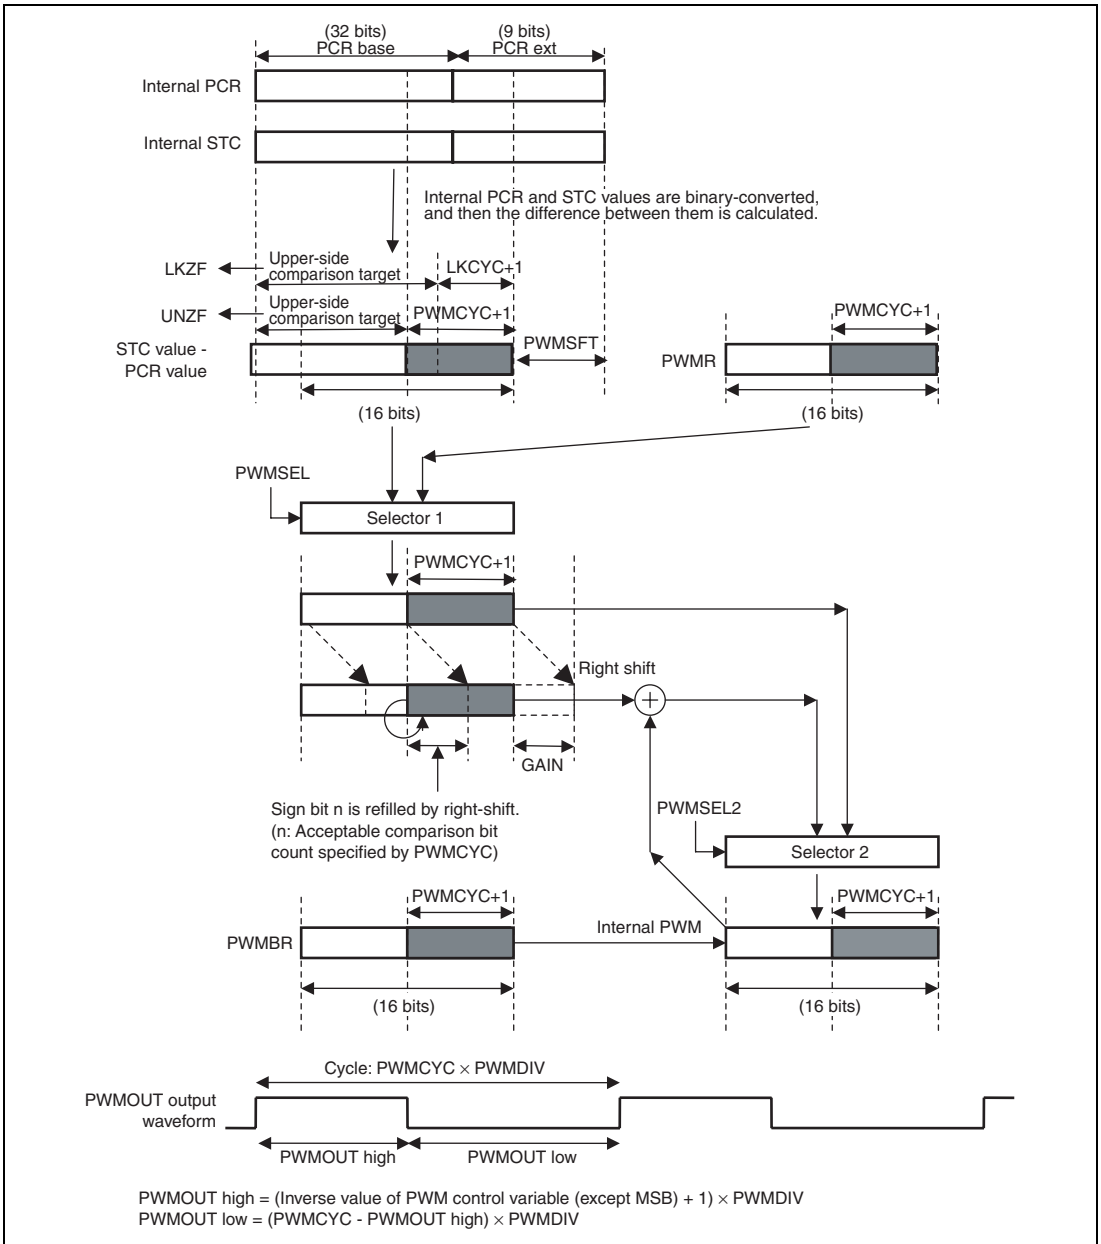

Figure 15.9 Illustration of Register Settings
- C. Specify the shift amount of the PWM control variable reference bit (LSB of PWM control variable) using the PWMSFT3 to PWMSFT0 bits in STPWMMR. The shifted bits (PWMSFT width bits in figure 15.9) do not fall within the PWM control variable comparison range.
- D. In the PWM control variable calculation, the PCR base and PCR extension of the internal STC and PCR registers are converted to binary values, and the converted values are masked with the PWMSFT width bits, and then the difference between the values is calculated. The binary conversion is performed using the following expression (1).
- I. The PWM control variable can directly be set by STPWMMR when the PWMSEL bit in STPWMMR is set to 1. In this case, PWMCYC acts as a number of acceptable comparison bits as in the case of internal STC value - PCR value (figure 15.9).
- G. The PWMOUT waveform with a reflected PWM control variable is output from the PWMOUT pin as shown in figure 15.9.
- E. The CPU converts the read STSTC0R/STSTC1R and STPCR0R/STPCR1R values to binary ones with STCbin and PCRbin respectively using the expression (1) in section 15.6.1, Operation of PCR Clock Recovery, step 4, and then calculates the difference (STCbin - PCRbin). To be set in STPWMR as a PWM control variable, specify the difference (STCbin - PCRbin) as a two's complement of the acceptable comparison bit count n (n: sign bit) specified by the PWMCYC bits. Set a value within the range of $-(2^n - 1)$ to $+(2^n - 1)$ for the difference. Do not set the value -2^n . The CPU also determines the handling of PCR data errors shown in step 6 of Example 1.